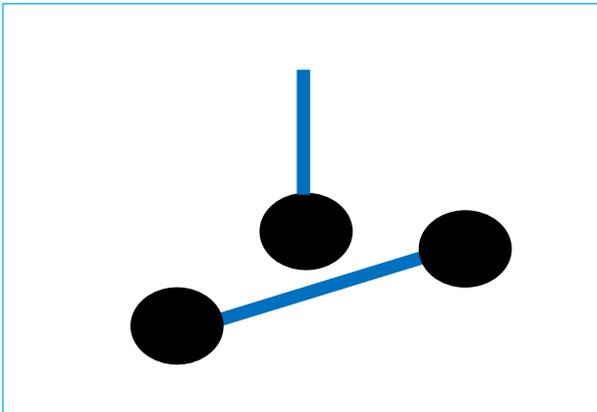

Figure 1 – Pipe Undershoot
- Undershoots: A pipe end comes up just short of the pipe to which it is to be connected. See Figure 1.